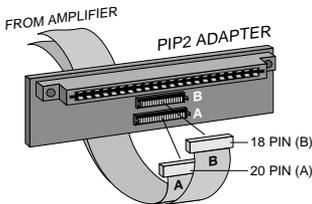

Fig. 2.4 PIP2 Input Adapter Connection
5. Remove the existing *P.I.P.* module or panel (two screws). For *PIP2* amplifiers, this may involve disconnecting the *P.I.P.* from a *PIP2* input adapter (see Figures 2.4 and 2.5). If a *PIP2* input adapter is already present, do not remove the ribbon cables from the adapter. Otherwise you will have to reconnect them in the next step.
*PIP2 Amplifiers:* (Requires the PIP2 ADAPTER.) Connect the PIP2 input adapter to the two input cables of the amplifier (see Figure 2.4). Notice the PIP2 input adapter should be positioned with the P.I.P. edge connector on top and facing away from the amplifier. The 20 pin cable (A) is connected first, then the 18 pin cable (B) is connected. Both ribbon cables should extend below the PIP2 input adapter.